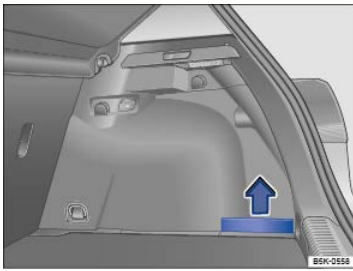

Fig. 182 In the luggage compartment: Side storage compartment.
- *To remove:* Pull the side panel upward in the direction of the arrow ⇒ *Fig. 182*.